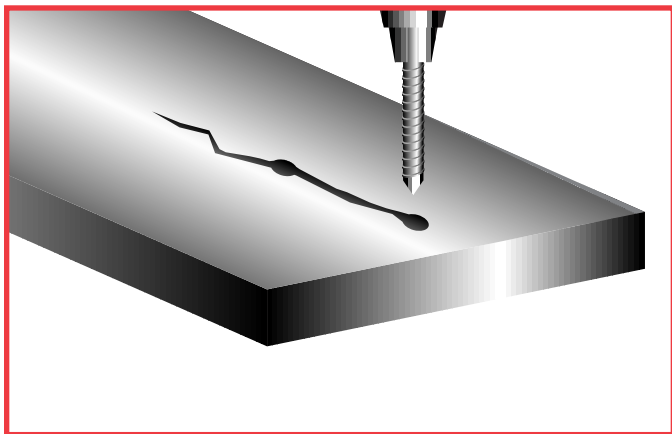

Figure 9. Drill holes at either end of the crack.
2. **Drill holes** 1/8" (3 mm) larger than the crack at either end of the crack. Use detecting dye if necessary to determine the actual area of the crack. If the crack is over 5" (12.5 cm) long, drill multiple holes along the length of the crack. (See figure 9)